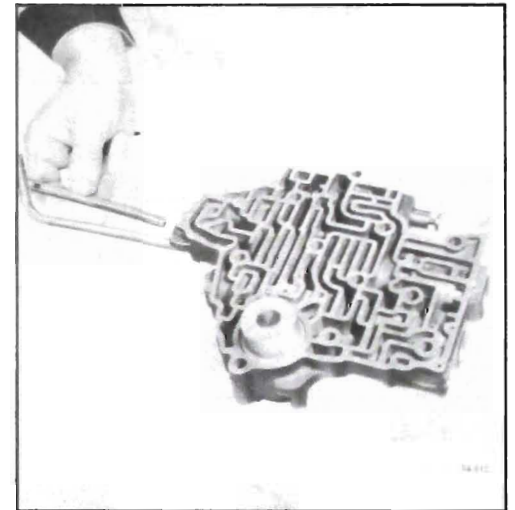

Figure 76-515
5. Remove governor pipes from valve body assembly. See Figure 76-515.